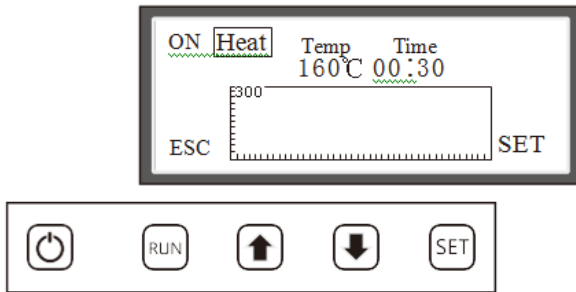
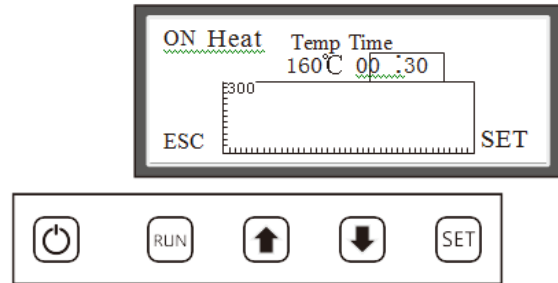

Fig. 7
Fig. 8
②. Press “SET” button to switch “PREHEAT” to the highlighted state, press “PAGE DOWN” button to switch to “Heating” as shown in Fig. 7. Press “SET” button again to switch “TEMPERATURE” to the highlighted state and conduct temperature setting by pressing “PAGE UP” button and “PAGE DOWN” button. The temperature setting range shall be higher than the set preheating temperature. Press “SET” button to switch “TIME” to the highlighted state as shown in Fig. 8 and then conduct time setting.